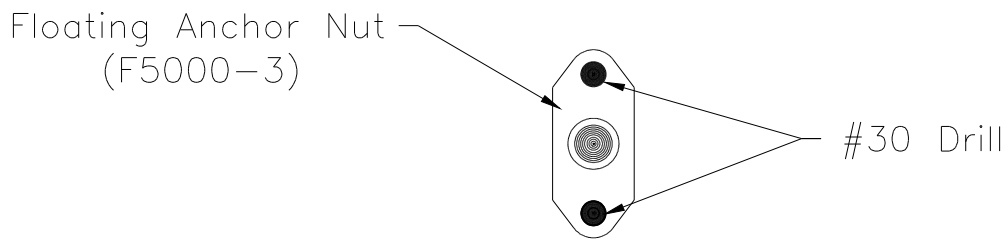

Figure 20.5.10
- 10) Drill the two #30 attachment holes through each floating anchor nut (F5000-3). Figure 20.5.10.